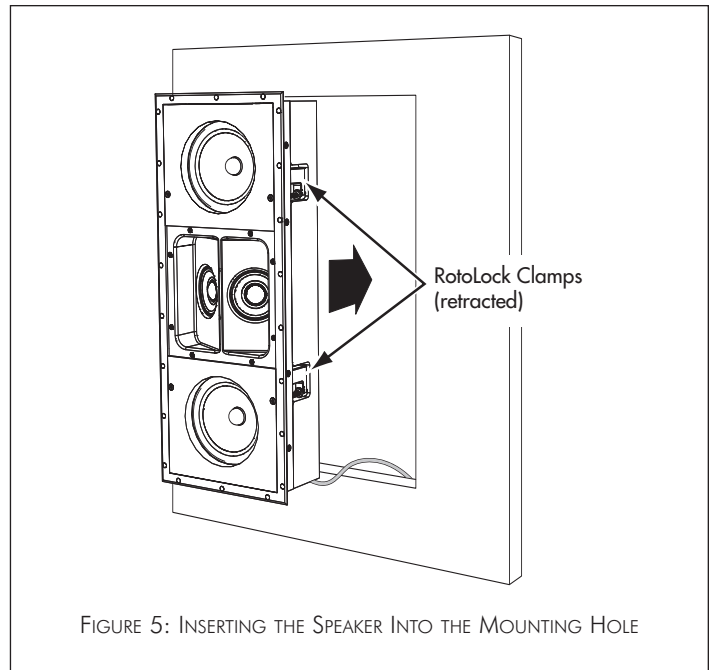

FIGURE 5: INSERTING THE SPEAKER INTO THE MOUNTING HOLE
3. Make sure all the RotoLock clamps are fully retracted into their recesses in the speaker box. Insert the speaker into the hole in the wall (see Figure 5, next column). The RotoLock system can accommodate a maximum wall material thickness of 1¼".